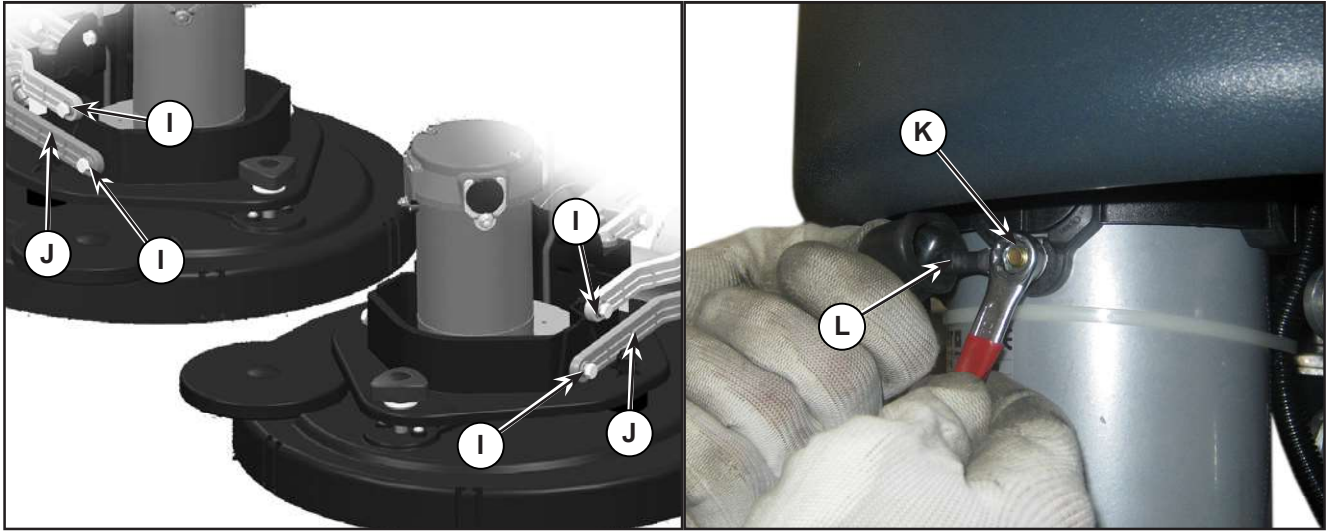

Figure 9:
10. Remove the 4 screws (I) (Figure 9) fastening the deck raising levers (J), retaining the bushings and washers.
11. Unscrew the 2 retaining nuts (K) and disconnect the brush motor power supply cables (L).